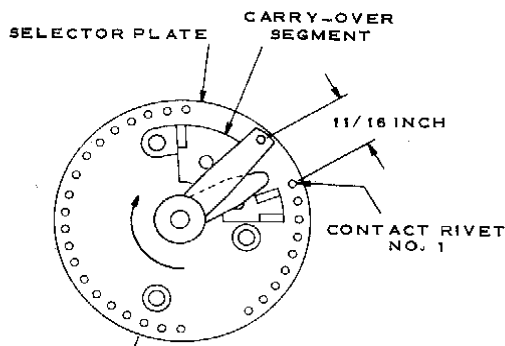

Figure 22. Wiper Arm Radial Adjustment.
2. Set the contact arm on the shaft so that center of outermost contact of the arm is approximately  $11/16$ " away from the center of the first contact on selector plate, see *Figure 22*.
* Contacts "WD", "WF", "WG", and "WK" close before innermost contact of wiper arm leaves carryover segment on selector plate assembly. (Figure 22)
† Contacts "WD" remain closed until after innermost contact of wiper arm again reaches carryover segment on selector plate assembly. (Figure 22)